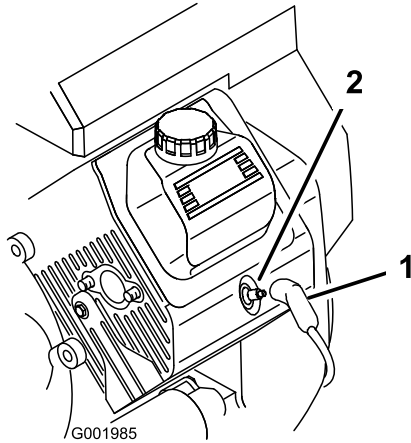

Figure 52
3. Pull the wires off the spark plugs (Figure 52).
- Push the wires onto the spark plugs (Figure 52).